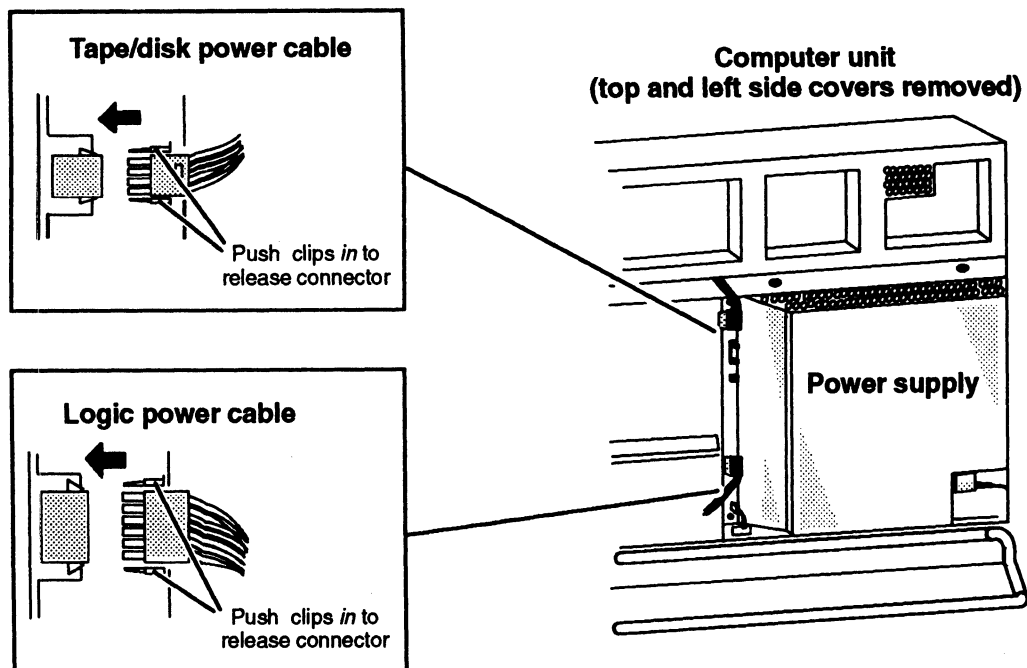

Figure 11-8 Connecting the Tape/Disk Power and Logic Power Cables
5. Plug the tape/disk power and logic power cables into the power supply as shown in Figure 11-8.